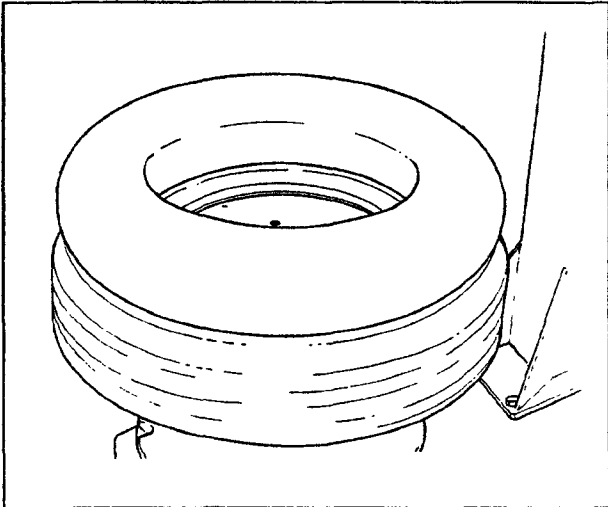

Fig.20
B. Confirm that the tube is designed for tires(Fig.20).